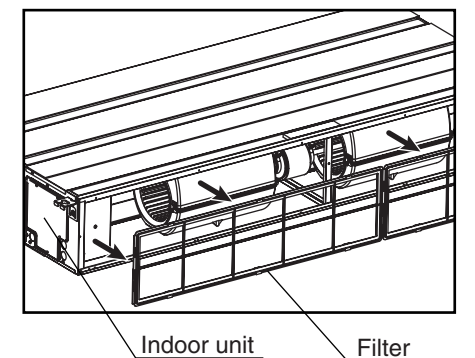

Fig.3-1
- Remove the filter on the indoor unit. (Fig. 3-1)